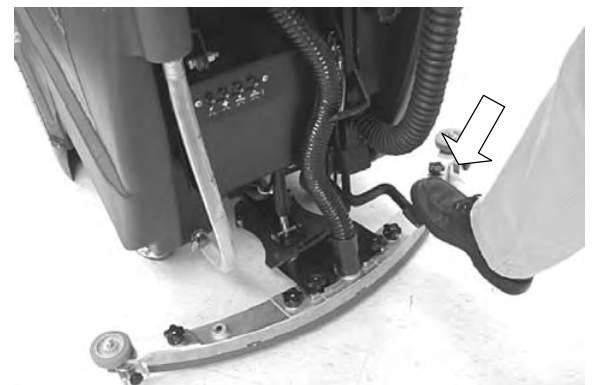

FIG. 7
2. Raise scrub head. Step down firmly on bottom brush lift foot pedal to raise (Figure 7).